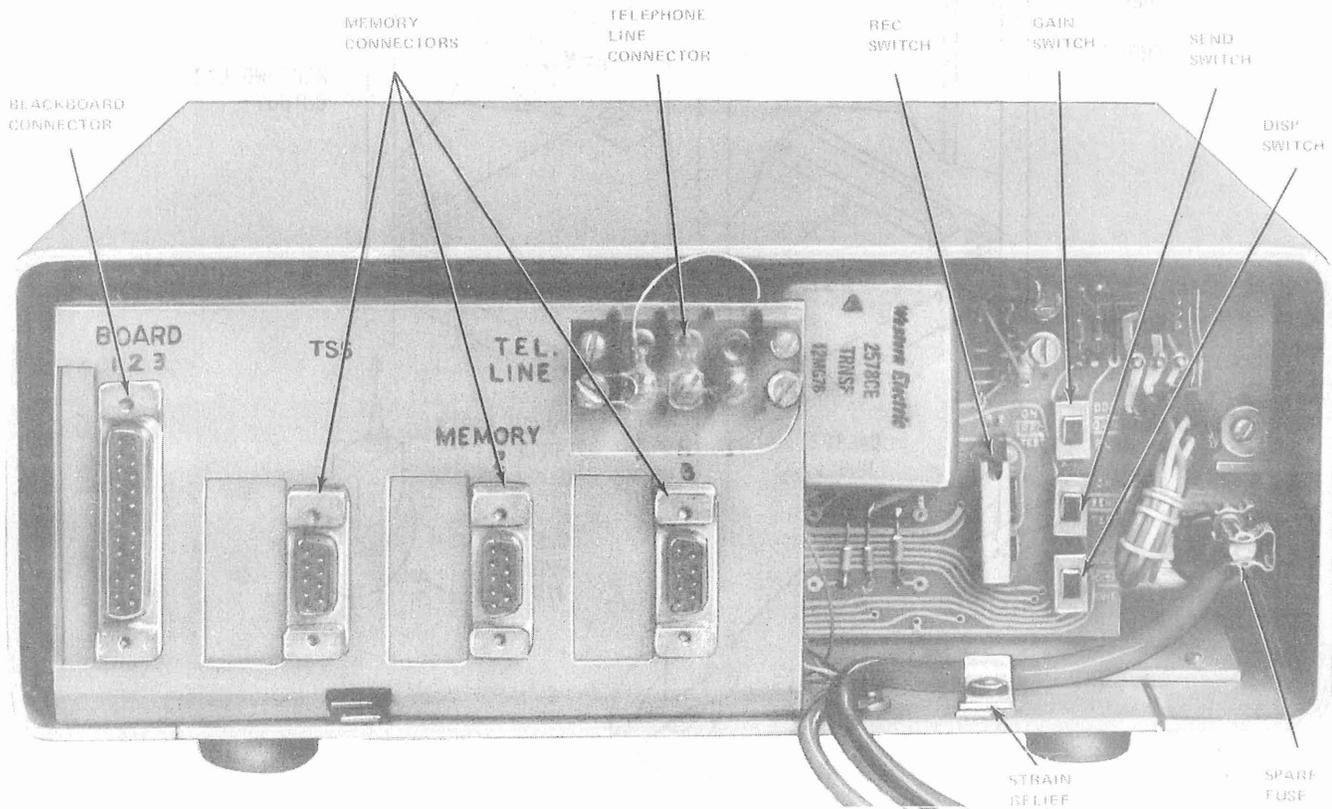

Fig. 35—Rear of Transmitter-Receiver
5.35 Remove rear cover from 1AR graphics transmitter-receiver or receiver (Fig. 35). Set option switches as follows:
5.36 Connect the telephone line mounting cord to the telephone line connector on the rear of the transmitter-receiver per Fig. 35 and 36. Secure the mounting cord to the transmitter-receiver by placing the strain relief loop of the mounting cord under the strain relief screw on the transmitter-receiver and tighten the screw.